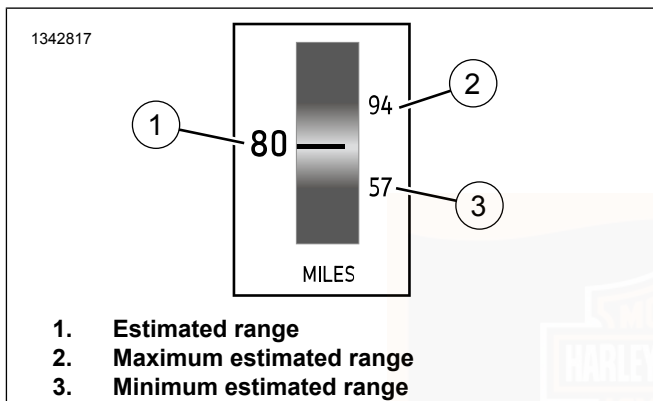

Figure 36. Range Widget
See Figure 36. The Range widget displays estimated remaining range (1), maximum estimated range (2) and minimum estimated range (3) based on current riding behavior.